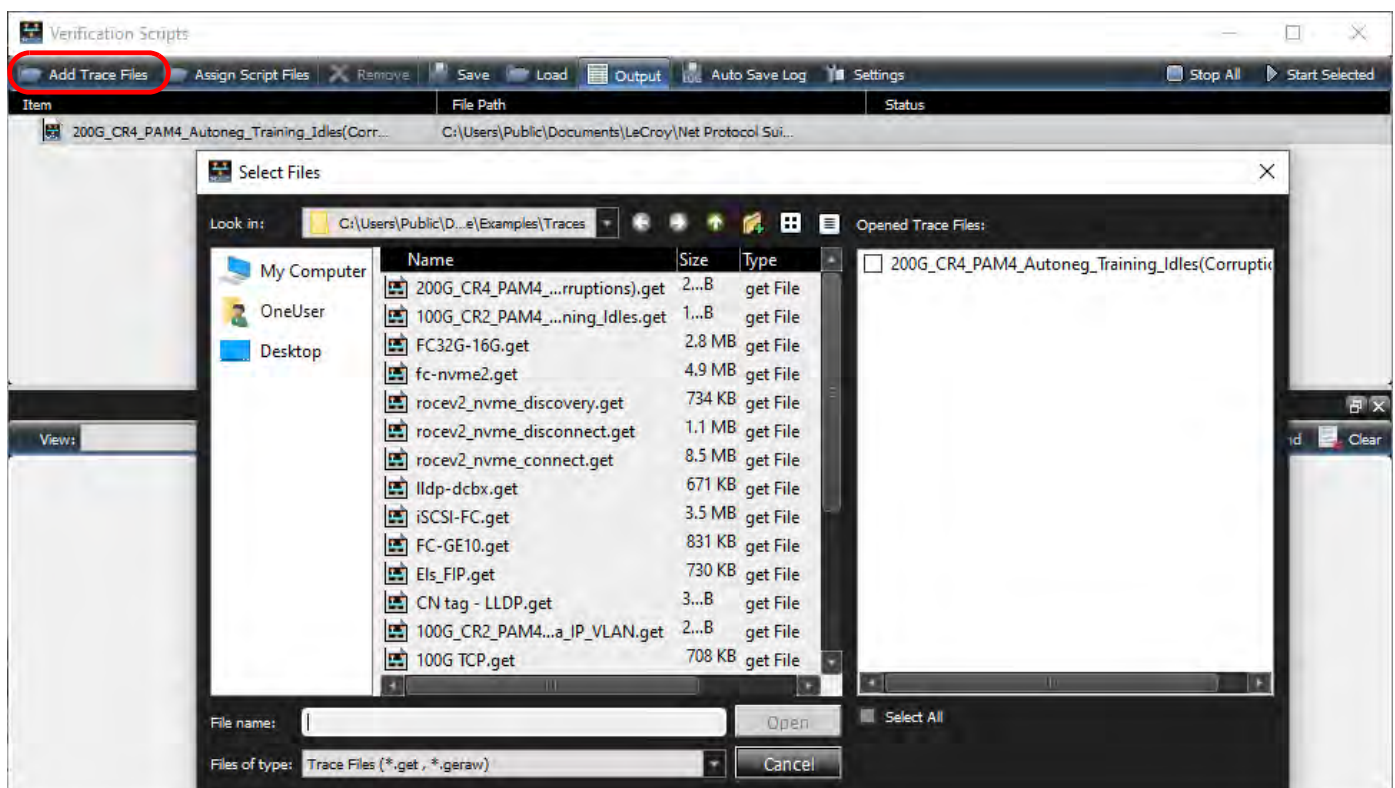

Figure 5.117: Example Traces
1. Click on **Add Trace Files** in the toolbar. A window containing Trace files appears (Figure 5.117). If you have already opened a Trace file(s), it will appear in the right pane.